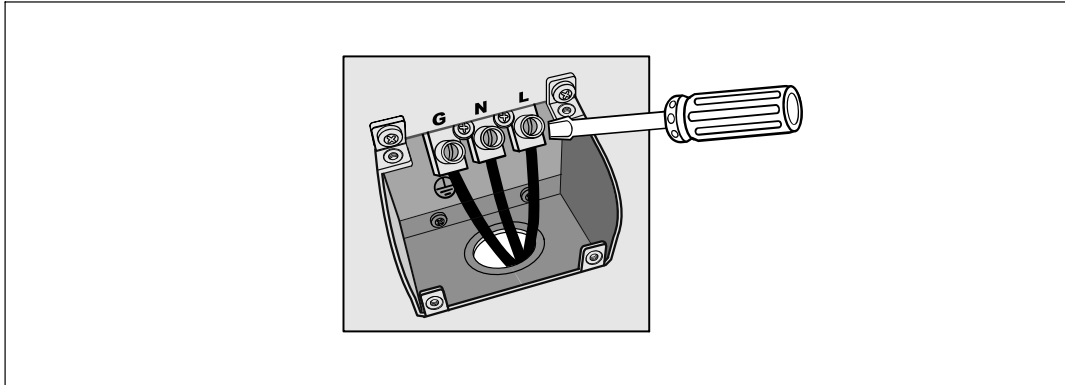

Figure 21. UPS Input Terminal Block
- 6 Connect the input and ground wires to the terminal block according to Figure 21 and Table 1.